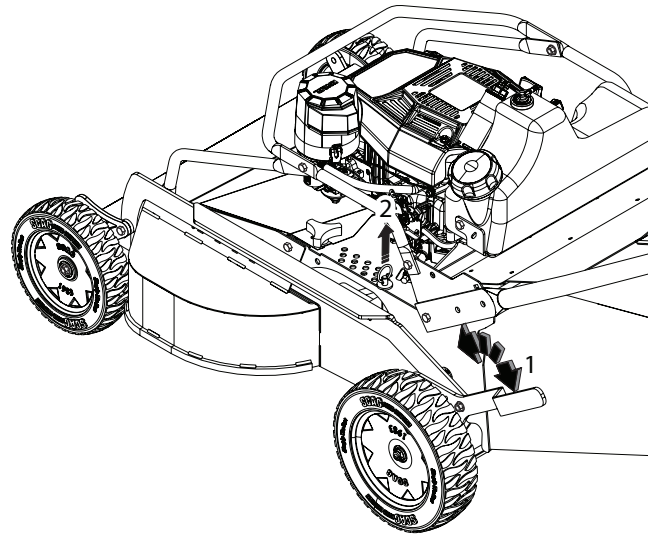

Figure 4-5. Adjusting Cutting Height
4. Lift the pin and insert into the cutting height index at the desired cutting height. See Figure 4-5.
3. Lift up and forward on the cutting height adjustment lever. See Figure 4-5.